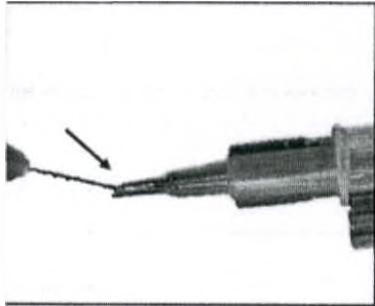
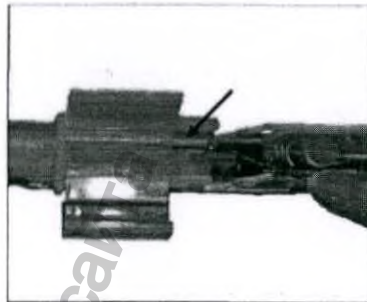

FIG. 1
FIG. 2
4. Inspect the device and make sure it is intact. The lens should be rinsed thoroughly by flushing balanced salt solution through the tip of the cartridge (**FIG. 1**) and from the end of the loading chamber (**FIG. 2**). Wait for 30 seconds.